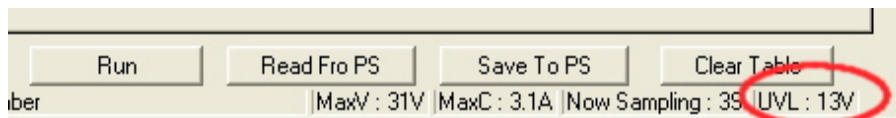

Figure 6.4.1c
8. When the right bottom corner of the display window shows the UVL value (see Figure 6.4.1c), connection to the PC is made correctly and the power supply is operating normally.